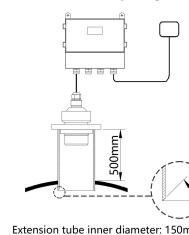

Figure 1
3) If the distance from the probe's emitting surface to the maximum liquid level is less than the blind zone of the selected instrument, an extension pipe must be installed. The diameter of the extension pipe should be $\geq 150\text{mm}$, with a length ranging from 0.2m to 0.5m. It should be installed vertically with a smooth inner wall, and the opening on the tank body must be larger than the inner diameter of the extension pipe(Figure 1).